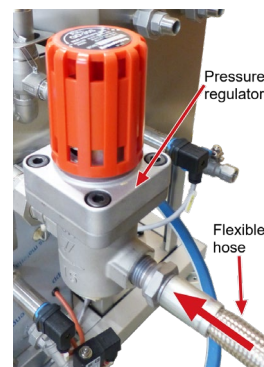

Fig. 2 Connection of the flexible hose
3. Now connect the flexible hose also included in the scope of delivery to the second connection of the pressure regulator (Fig. 2).